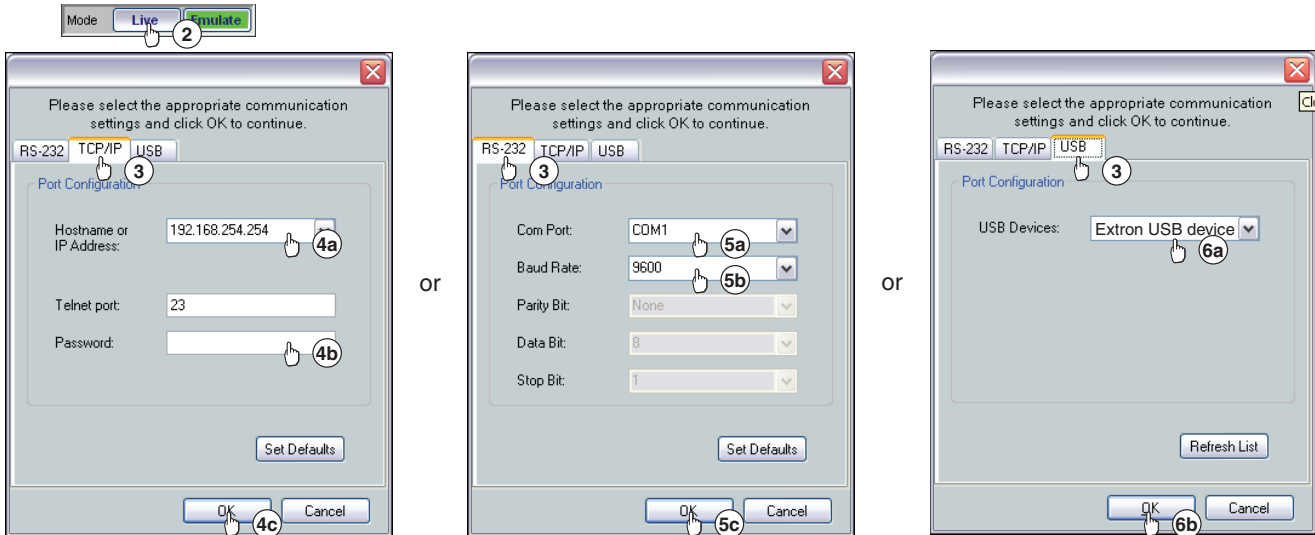

Figure 55. Selecting Live Mode
2. Click the Mode **Live** button (see 2 in figure 55). The communication type selection dialog box appears.